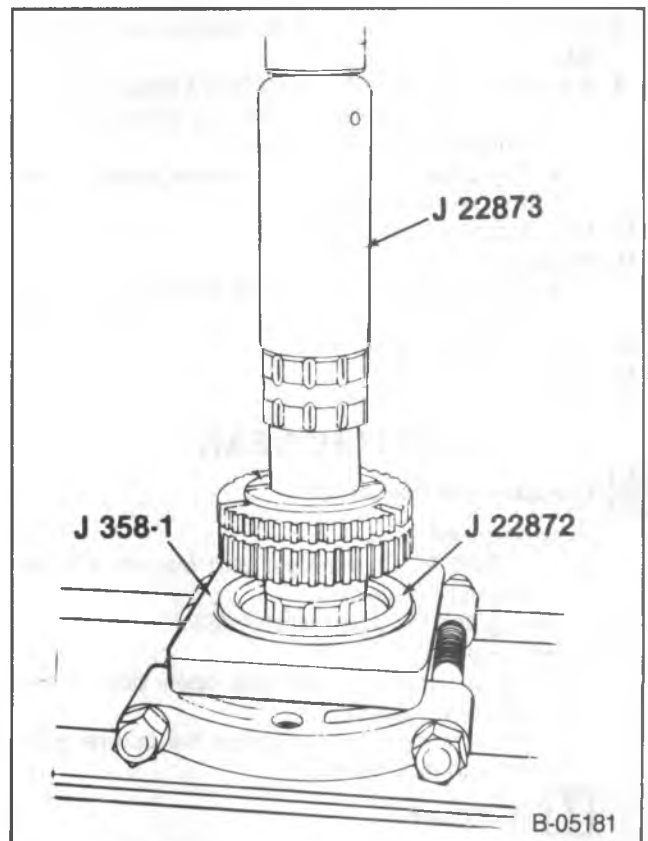

Figure 18 –Installing the 1st Speed Gear Bushing
5. 1st speed bushing (245), using J 22873, (figure 18).